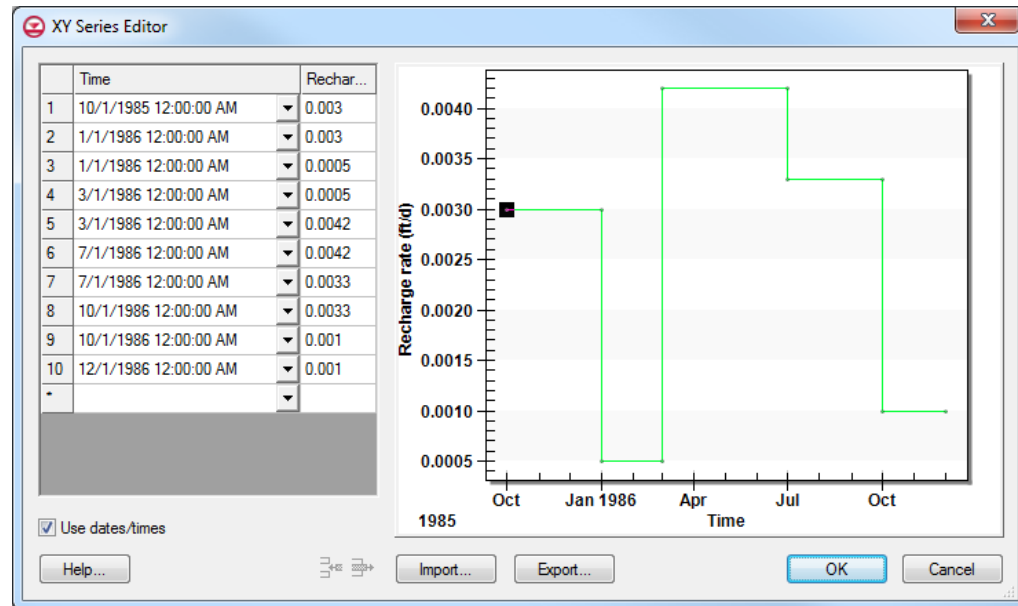

Figure 6 XY Series Editor showing recharge rate
11. Click the  button in the *Recharge rate* column to open the *XY Series Editor*. A time series curve of the imported data will appear which should match Figure 6.